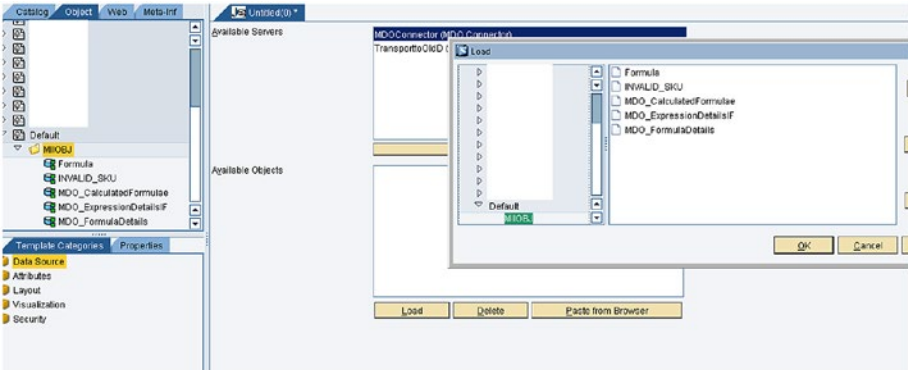

Figure 7-9. The joined MDO object selection
5. When you select the joined MDO, the screen in Figure 7-9 appears.